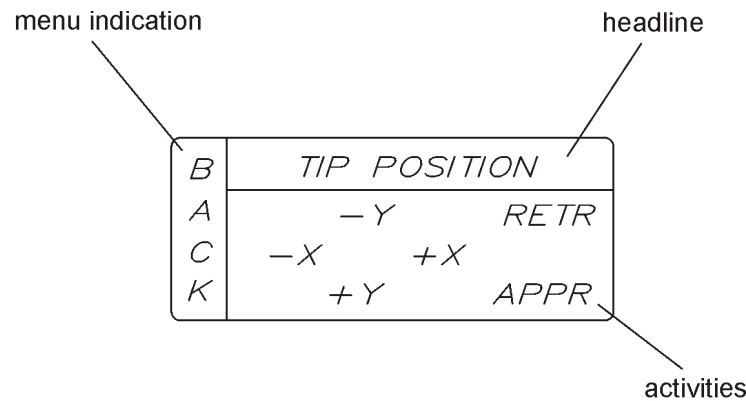

Figure 32. Operating menu display structure. VT STM/SPM version shown as example.
All operating menus have a similar display structure, see figure 32.
- The main field shows the functions of the numbered F-buttons  $\pm F1$ ,  $\pm F2$  and  $\pm F3$ . In the example shown in figure 32 pressing the +F3 button retracts the tip away from the surface.